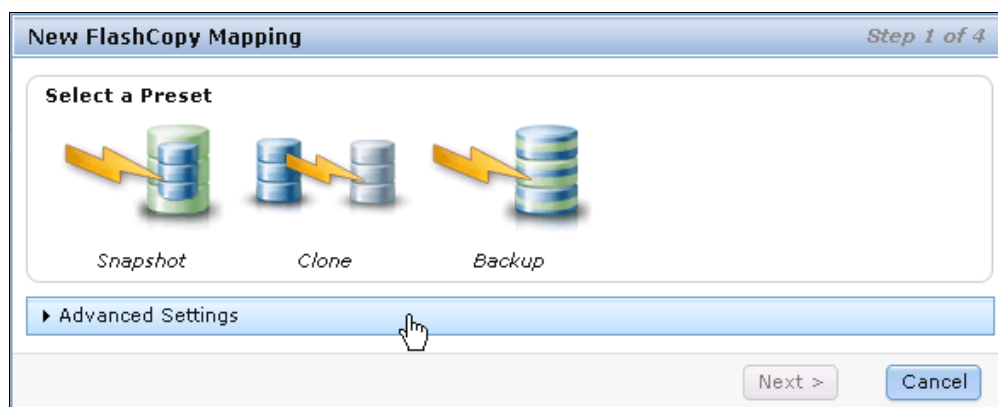

Figure 10-16 Choose a preset most similar to your requirement
2. The wizard guides you to choose a preset, as shown in Figure 10-16. Choose one preset that has the most similar configuration to the one that is required and click **Advanced Settings** to make any appropriate adjustments to the advanced settings.